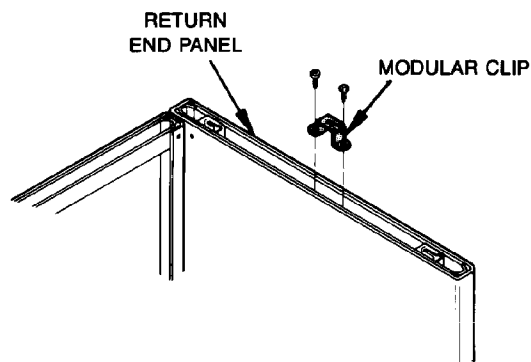

FIG. 7
- Turn the end/modesty panel assembly over again and screw the modular clips into place on the opposite end of the end panel (Fig. 7). The open end of the modular clips must face away from the modesty panel.